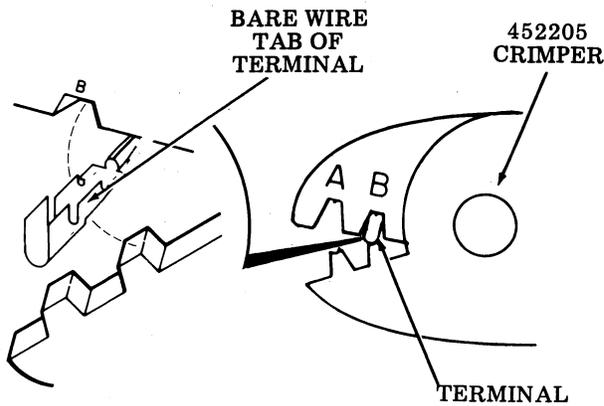

Fig. 31
3.17 Crimping methods are provided in 3.18 through 3.24 for both the 452205 (two-step) crimper and the more expensive 452242 (one-step) crimper. See Fig. 31 and 32.